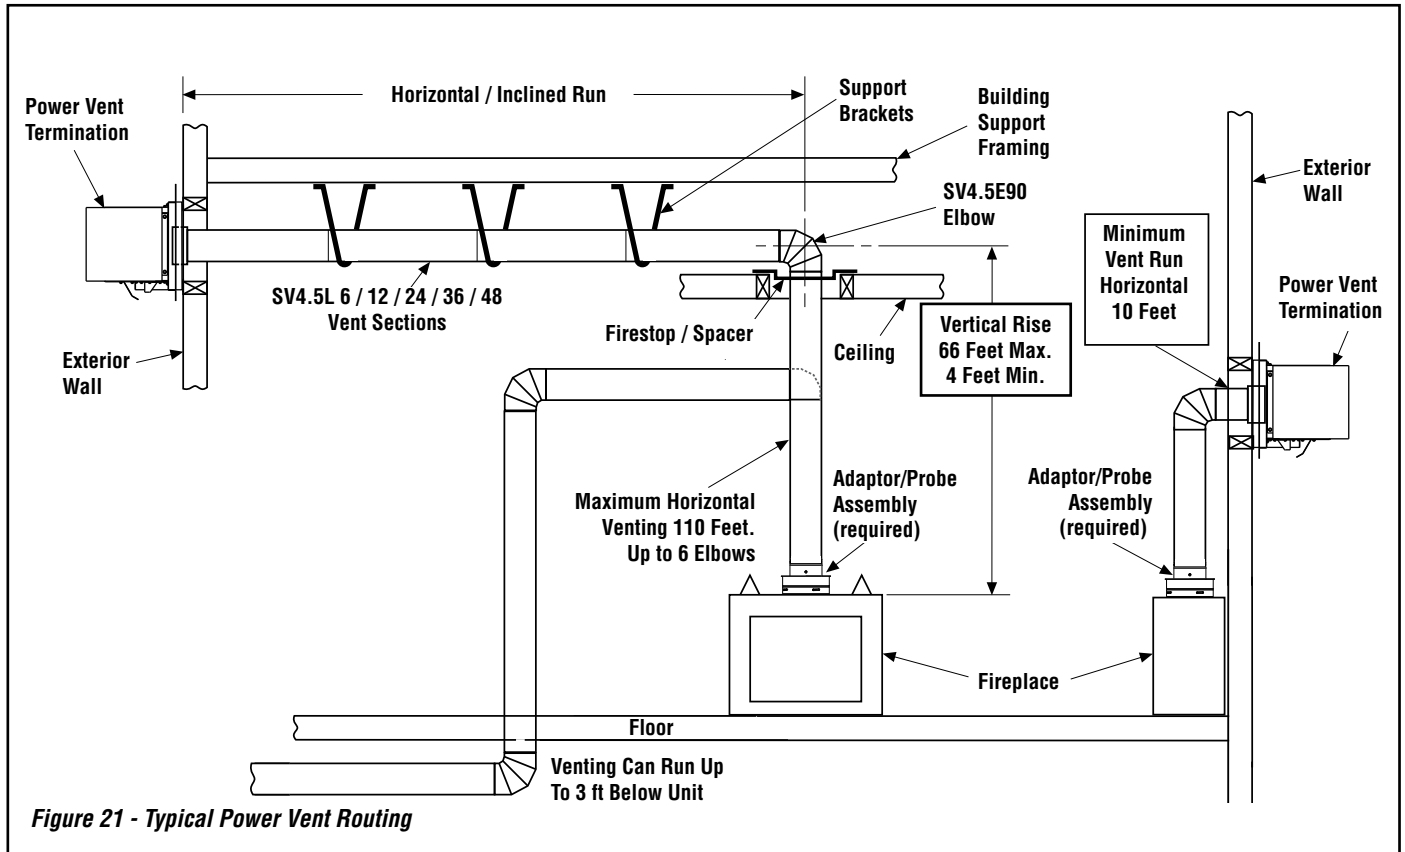
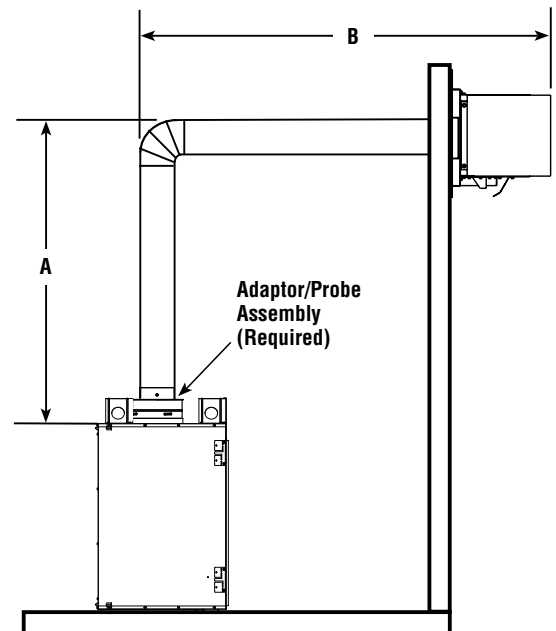

Figure 21 - Typical Power Vent Routing
Figure 22
C. Attach vent components to each other. Other vent sections may be added to the previously installed section in accordance with the requirements shown in *Figures 21 and 22 on Page 19*.
G. Continue installation of horizontal/inclined sections. Continue with the installation of the straight vent sections in horizontal/inclined run as described in **Step C**. Install support straps every 3' (914 mm) along horizontal/inclined vent runs using conventional plumber's tape (*see Page 19, Figure 21*).
See **Figures 21 and 22 on Page 19** illustrating the various horizontal venting configurations that are possible for use with these appliances. The table in **Figure 22 on Page 19** shows each system's minimum and maximum vertical and horizontal length values that can be used to design and install the vent components in a variety of applications.
See **Figure 21 on Page 19**.